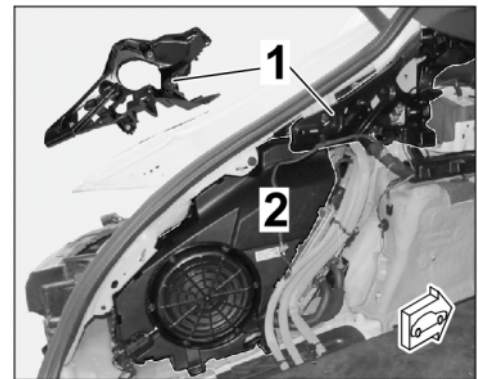

Figure 5 (Sport Turismo)
⇒ *Figure 5 (Sport Turismo)*
- 1.6.4 **ONLY** for vehicles with BOSE® Surround Sound System (9VL): ⇒ *Figure 5 (Sport Turismo)-2-* Remove subwoofer. ⇒ *Workshop Manual '913619 Removing and installing subwoofer'*